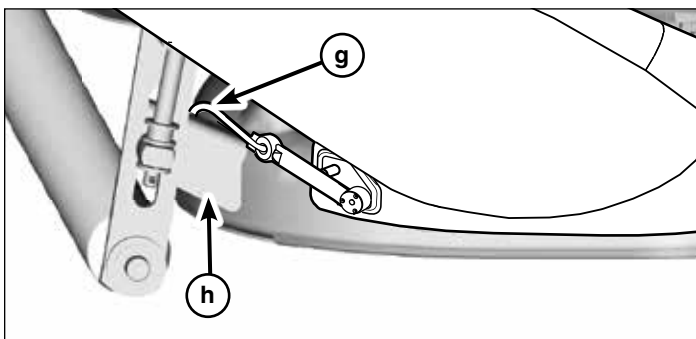

Figure 17
2. Secure the hook (g, Figure 17) of the mounting strap onto the roller bar support bracket (h).